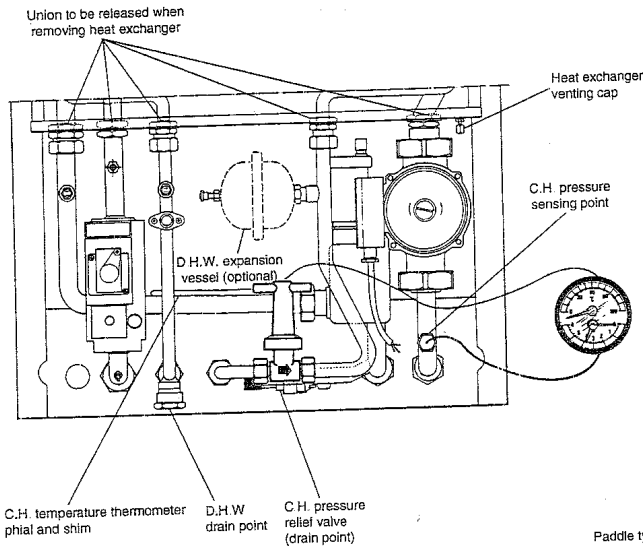

Fig 37
- b) For replacement of parts where water connections are broken, it will be necessary to isolate and drain either or both the central heating or domestic hot water circuits of the boiler only. The cold water mains inlet is isolated at the inlet cock (fig. 1). The D.H.W. is drained via drain cap (fig. 37).
- Refer to section 1, items a, b, c, d, f and g (drain D.H.W. only fig. 37)
- Remove the shim then the temperature sensing phial from its pocket (fig. 37)
- Unscrew the pressure sensor from its housing (fig. 37). (Access from below).
- Unscrew the expansion vessel (fig. 37). (Take care not to lose the sealing washer)